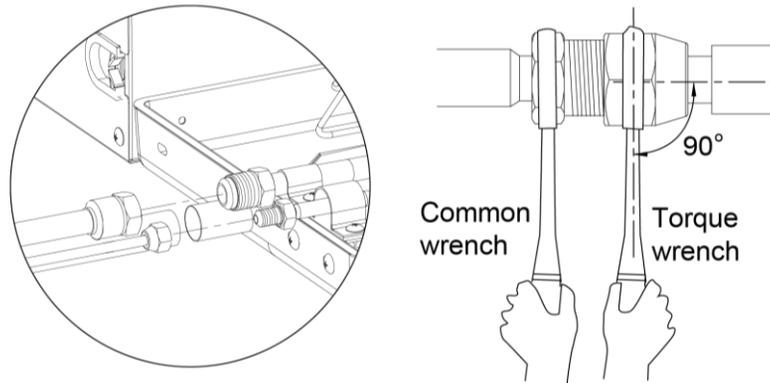

Fig. 4.3.1
- (1) Conform to the following principles during piping connection: Connection pipeline should be as short as possible. The height difference between indoor and outdoor units should be as short as possible. Keep number of bends as little as possible. The radius of curvature should be as large as possible.
- (2) Weld the connection pipes between indoor and outdoor unit. Please strictly conform to the requirements for welding process. Rosin joints and pin holes are not allowable.
- (3) When laying the pipes, be careful not to deform them. The radius of bending parts should be more than 200mm. The pipes can not be repeatedly bent or stretched, otherwise the material will get harden. Do not bend or stretch the pipe over three times at the same position.
(4) Please use a torque wrench to connect union nut on the indoor unit. See Fig. 4.3.1.